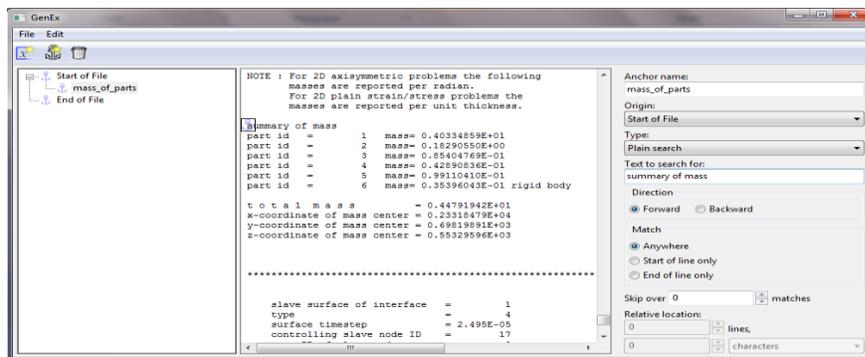

Figure 2: Creating Anchors in GenEx
9. The part mass information is printed in *d3hsp* under ‘summary of mass’ section. To define an anchor, click on *New Anchor*, assign a name (e.g. mass_of_parts) and enter “summary of mass” in ‘Text to search for’ field and hit enter. This creates an anchor at start of first occurrence of text “summary of mass” throughout d3hsp file as shown in figure 2.